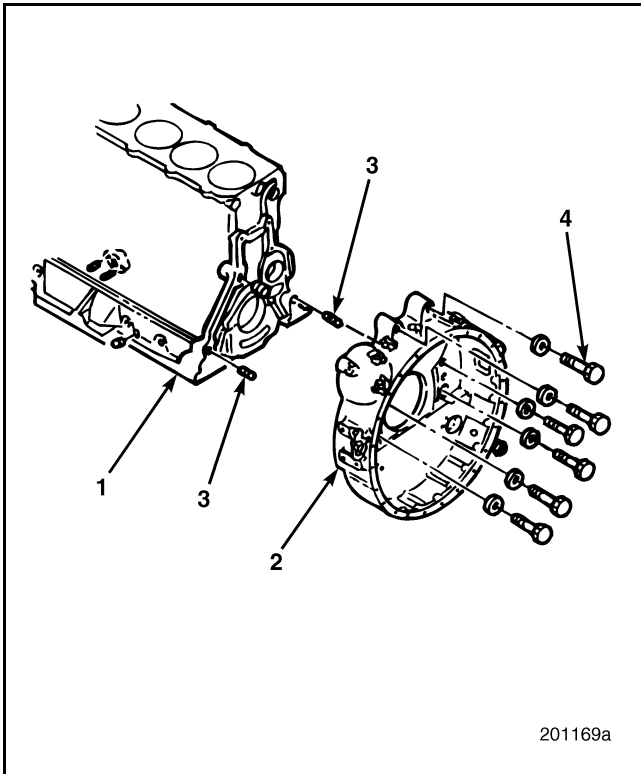

Figure 247 — Flywheel Housing Installation
3. Insert the two dowel pins in the cylinder block if they were removed. Refer to Figure 247.